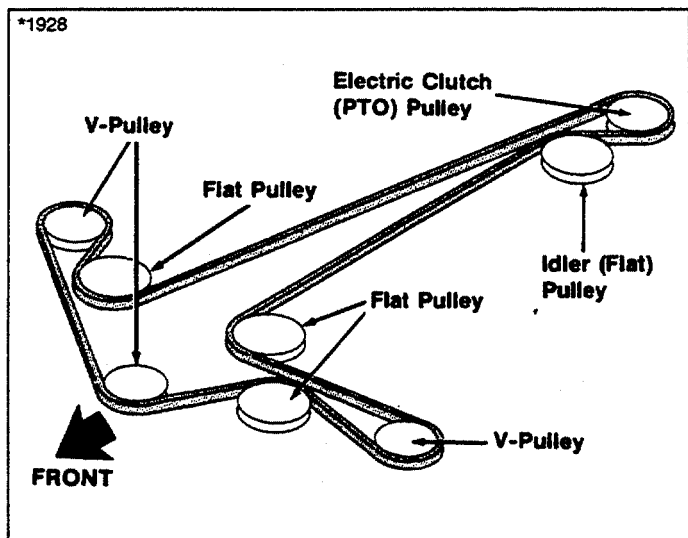

Figure 43. Mower Belt Routing
- Remove belt from mower deck and replace with a new belt. Check belt pattern as shown in figure 43.